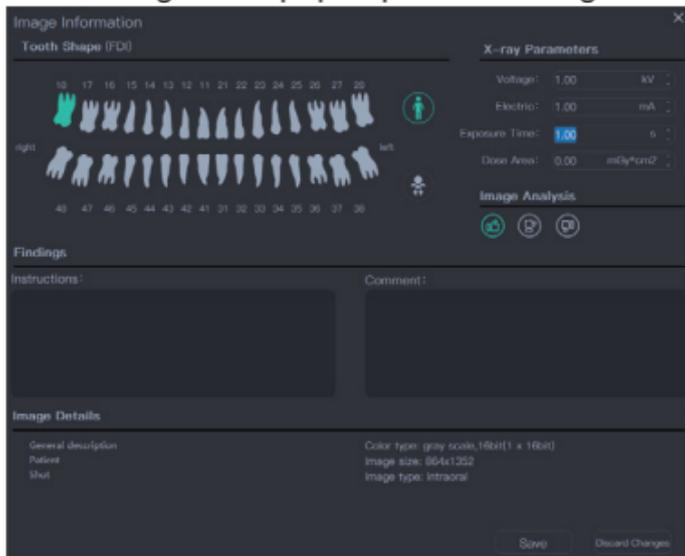

Figure 24
(1) Print function. Call the available printer to print the image.
- (2) Export function. Export the image to a local disk for user convenience.
- (3) Delete function. If you are not satisfied with the image, you can choose to delete the image. If you want to restore the data within 30 days after deletion, you can contact Guilin Woodpecker Medical Equipment Co., Ltd.
- (4) Image information. Figure 24 pops up after clicking it.